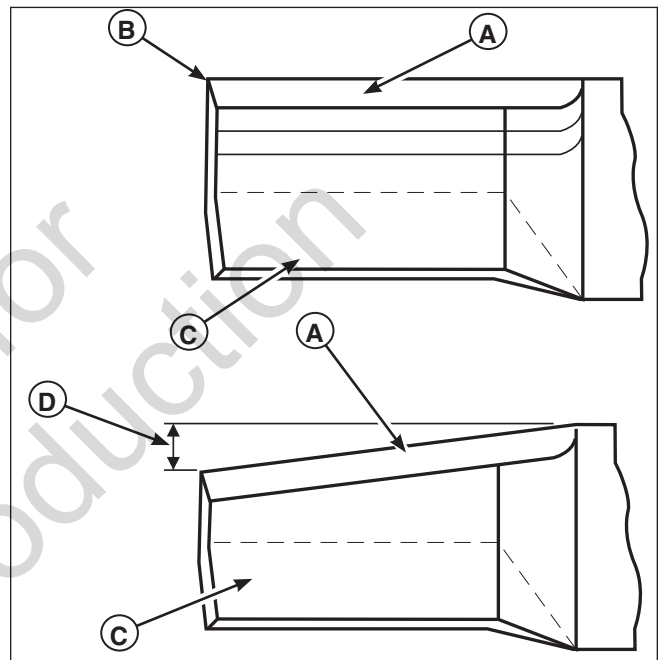

Figure 19. Inspecting the Mower Blade Tips
- Inspect the mower blade (Figures 19 & 20). Discard the mower blade if it has any of the below conditions.
- Has more than .5" (12,7 mm) of the mower blade metal removed from previous sharpening or wear (D, Figure 19).